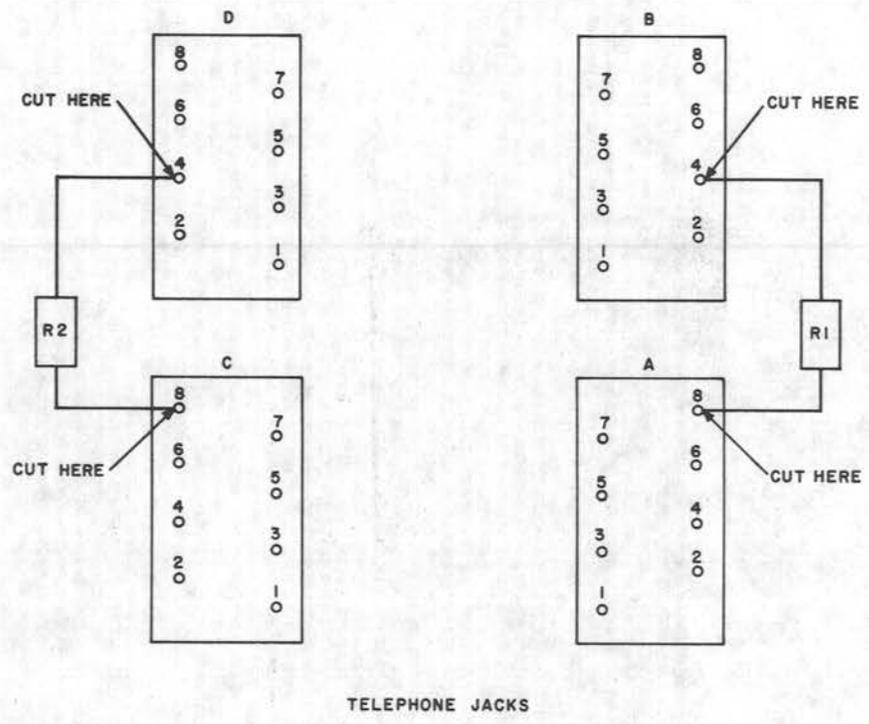

Fig. 5—1- and 2-Type Attendant Telephone Consoles—Partial Wiring Diagram
1.07 When the KS-21118 head telephone set is used at 1- and 2-type Attendant Telephone Consoles, it is necessary to remove the 68-ohm dummy loading resistors across the console headset jacks. The dummy load resistors were originally provided to ensure a constant transmit level when either one or two headsets were used. The resistors designated R1 and R2 on SD-67001-01 may be removed simply by cutting the resistor leads off as close to the jack as practicable. (See Fig. 5). Removal of the resistors will also improve the transmit levels of the other types of headsets.